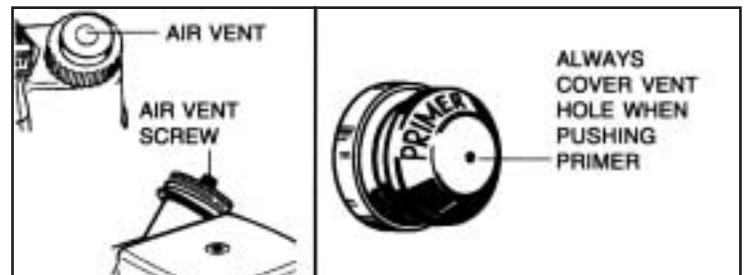

Figure 3
- ③ **CHECK THE FOLLOWING:**
D. Be sure air vent on fuel fill cap is free of debris and air vent screw (if so equipped, see Figure 3) is open.
- B. Push primer two (2) or three (3) times (if so equipped, see Figure 3). Wait about two (2) seconds between each push. In cold weather (50°F / 10°C or below) push (5) times.